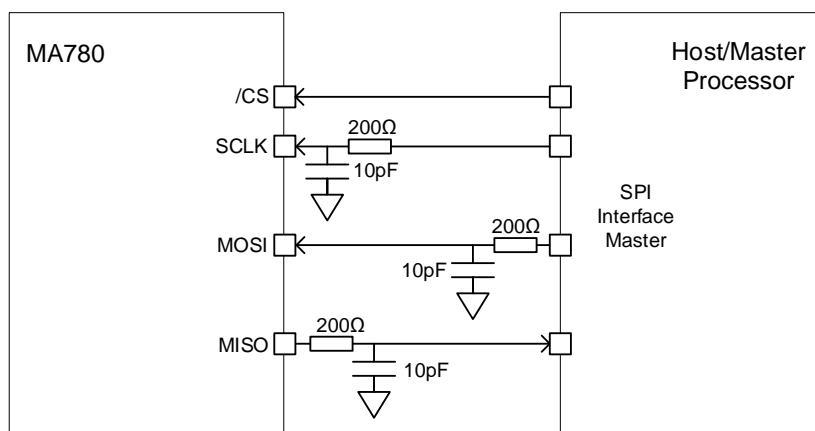

Figure 11: Example of an RC Low-Pass Filter on the SPI Signals
- Insert an RC low-pass filter on SCLK (see Figure 11). This RC filter must be located close to the sensor. It is recommended to use a 200Ω serial resistor with a 10pF shunt capacitor in order to have a filter cutting frequency that is about 80MHz.